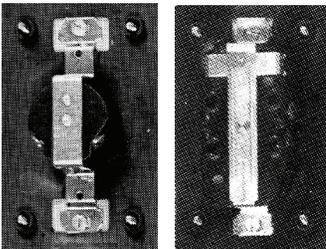

Figure 3
3. When receptacle is in place, with strap against back of cover at point of attachment and gasket is smoothly around receptacle, fasten receptacle firmly with the two special 6-32 x 3/16" screws provided tightening them to eight (8) inch-pounds of torque. (See Figure 3.)